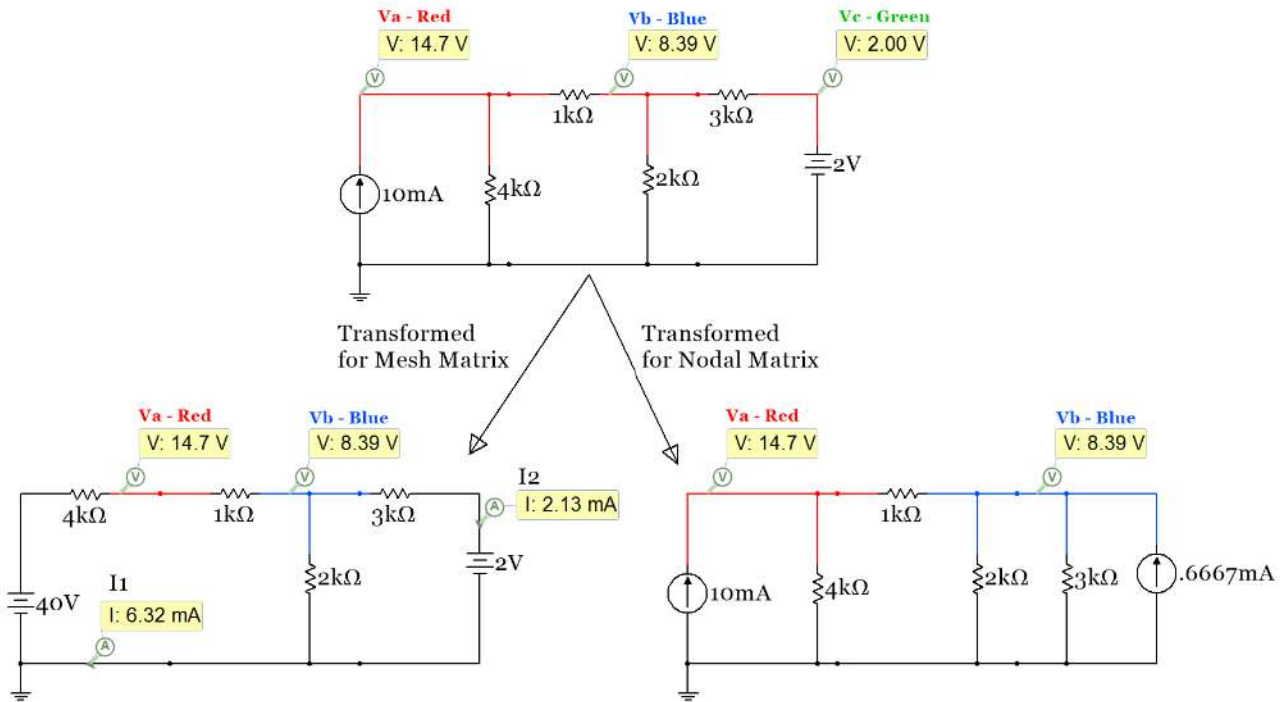

Figure 2.25: Circuit in Figure 2.23 transformed to a circuit with only voltage (left) or current sources (right).
Multisim probes for I1 and I2 are also shown in the bottom left circuit in Figure 2.25 because we will first get these values from Mesh Matrix analysis and use them along with Module 1 techniques to find V_A and V_B .
These current values match the Multisim probes in Figure 2.25. Now V_A and V_B are calculated as follows:
- 4) **The diagonal of the A matrix (cells A_{11}, A_{22}, A_{33} , etc.) is populated by adding the conductance value of each resistor touching the corresponding node. For example, A_{11} for the circuit in Figure 2.25 is the sum of all of the conductance values of the resistors touching Node A. $\rightarrow A_{11} = (1/4000 + 1/1000)$**
- 5) **The off-diagonal cells of the A matrix always have a negative sign and are populated by adding the conductance value of each resistor touching the 2 nodes that correspond to the cell and multiplying the sum by -1.** For example, the A_{12} cell (which can also be thought of as the V_{AB} cell) in the matrix is found by adding the conductance value of each resistor touching both nodes A and B and multiplying the sum by -1. Like described for the Mesh Matrix method the A matrix is symmetric. An example calculation is A_{12} for the circuit in Figure 2.25. It is the sum of all of the conductance values touching both nodes A and B (multiplied by -1). $\rightarrow A_{12} = A_{21} = - (1/1000)$